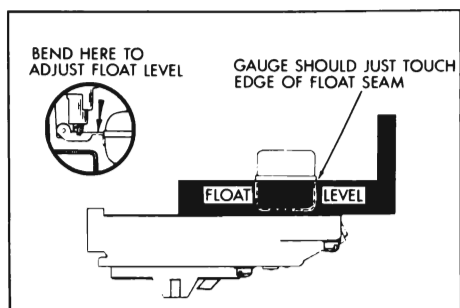

Figure 3-28—Float Level Adjustment
9. Adjust Float Level. With air horn assembly inverted, measure distance from air horn gasket to lower edge (sharp edge) of float seam at end of float using Float Level Gauge (11/16") of Gauge Set J-9585 as shown. Bend float arm as required to adjust float level. See Figure 3-28.